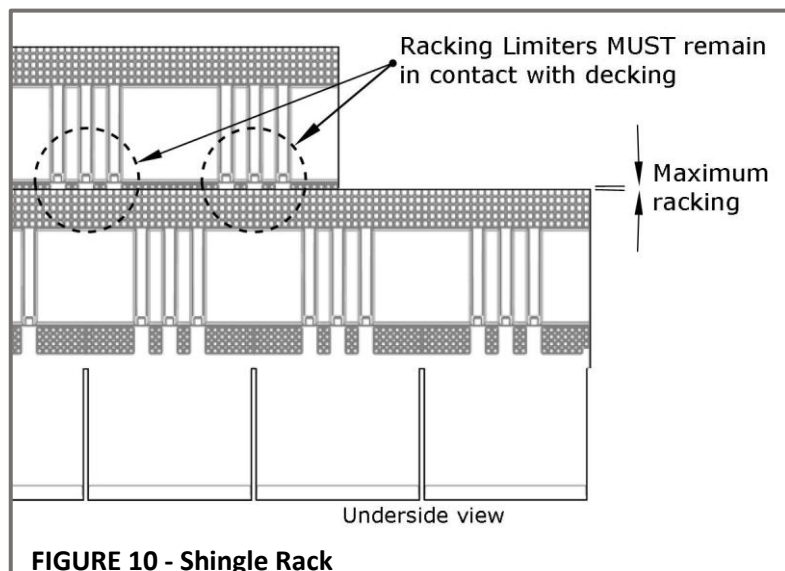
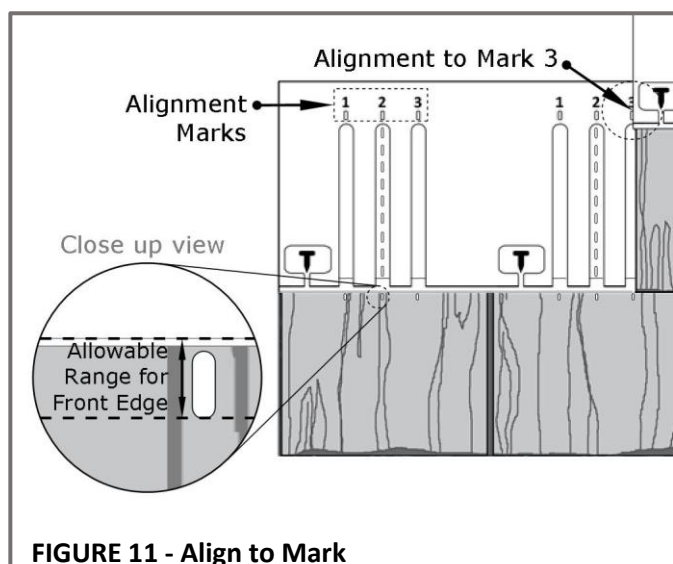

FIGURE 10 - Shingle Rack
FIGURE 11 - Align to Mark
- F-WAVE® REVIA® XTM Roofing Shingles have been designed to allow some rack (skew) when installed. See **Figure 10**, and **Figure 11**.
- For the **REPEATING OFFSET PATTERN**, place the edge of the shingle on the correct alignment mark. See **Figure 11**.